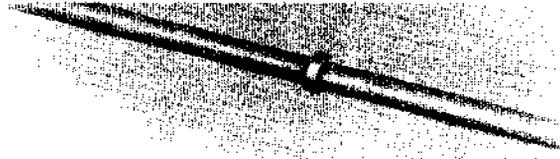

Fig. 7 – Staple
- Staples used for fastening jacketed wire do not have rust- and corrosion-resistant properties and are not to be used outside (see Fig. 7 and Table C).